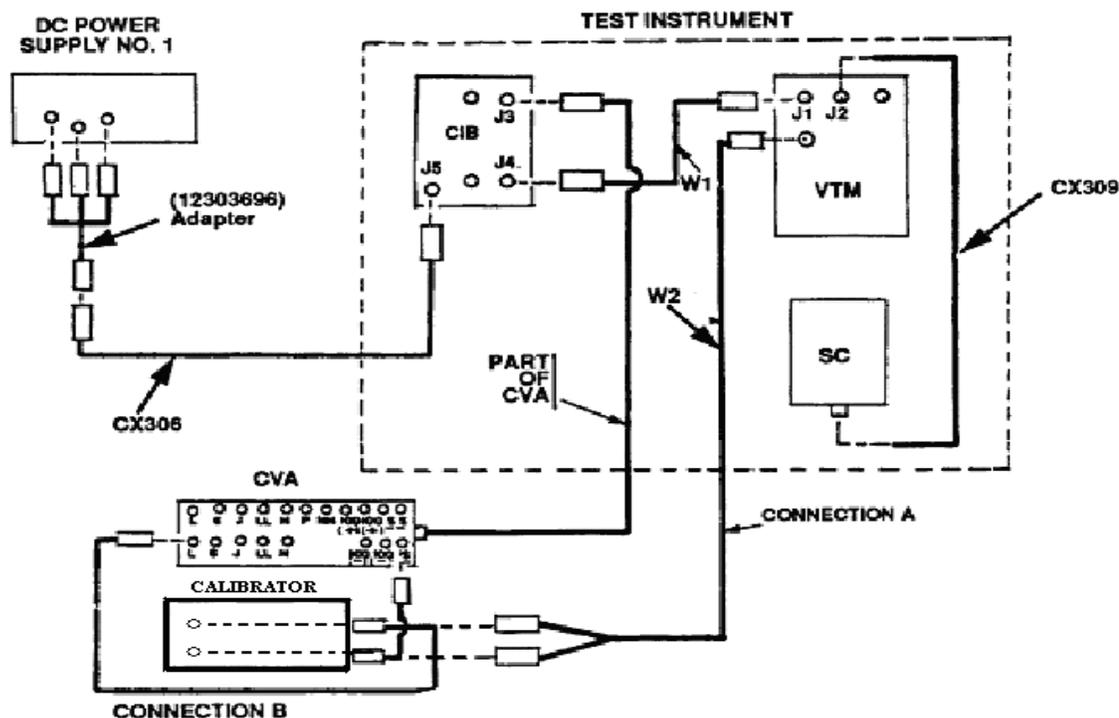

Figure 8. 10 V and 100 mV channel accuracy - equipment accuracy.
- a. Connect equipment as shown in CONNECTION A (fig. 8).
- (1) Set calibrator to **STANDBY** and +9.500 V output.
- (2) Connect equipment as shown in CONNECTION B (fig. 8).
- (3) Press **STOP** and **CLEAR** key on set communicator.
- (4) Using **DATA ENTRY** keys, enter **66657** on set communicator and press **GO** key.
- (5) Set calibrator to **OPERATE**. Set communicator will indicate between 9.3 and 9.7.
- (6) Set calibrator to **STANDBY**.
- (1) Connect equipment as shown in CONNECTION B (fig. 8), except connect + (positive) lead from calibrator to 100 (+) terminal on CVA and connect – (negative) lead to -100 terminals.
- (2) Set calibrator to all zeroes and **OPERATE**.
- (3) Using **DATA ENTRY** keys, enter **66659** on set communicator and press **GO** key.
- (4) Set output of calibrator to 95 mV. Set communicator will indicate between 90 and 100 mV.
- (5) Reduce calibrator output to 0.
- (6) Press set communicator **STOP** and **CLEAR** keys.
- (7) Repeat technique of (2) through (6) above for enter codes 66660, 66661, and 66662. Set communicator will indicate between 90 and 100 mV for each entry.
- (8) Set calibrator to **STANDBY** and disconnect from adapter.